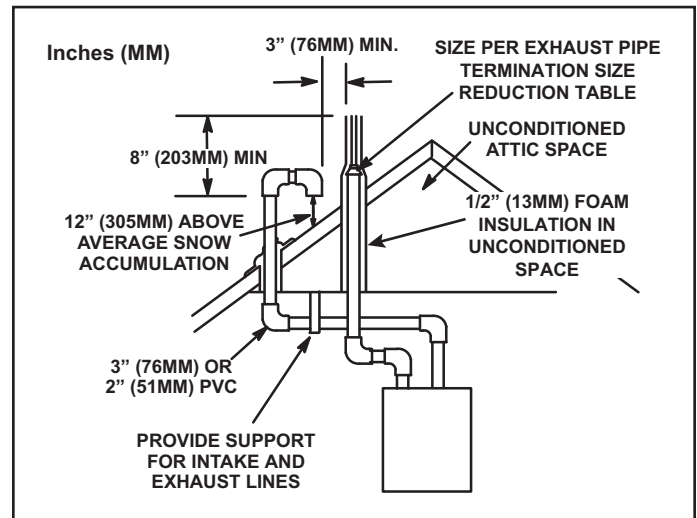

Figure 25. Direct Vent Roof Termination
3. On roof terminations, the intake piping should terminate straight down using two 90° elbows (Figure 25).